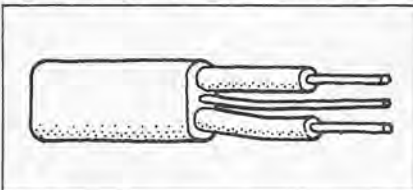

Fig. 4: PVC insulated cable
*PVC insulated cable* — copper conductors insulated and sheathed in polyvinyl chloride (fig. 4).